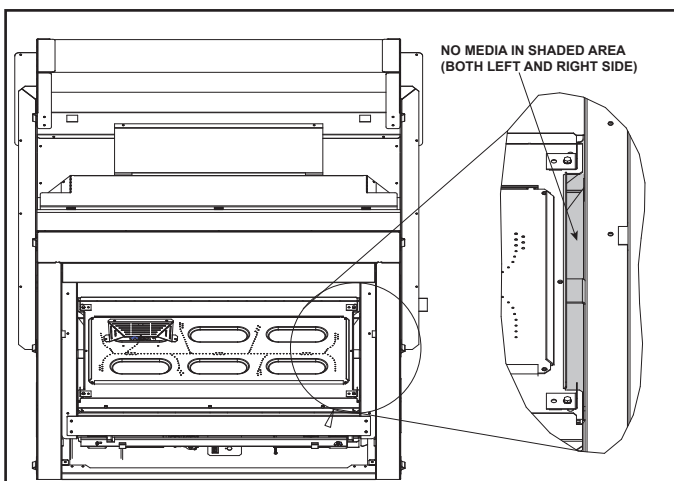

Figure 9.8 No Glass Rock Media in Gap
1. Place glass rock media evenly on base pan and over top of burner. Do not block the open area by the glass refractory. This area must remain open for proper air flow. See Figure 9.8.
**NOTICE:** Care should be taken to avoid placing glass rock media between the left and right of the media tray and the firebox. Blocking this gap may cause an undesirable flame appearance. See Figure 9.8.